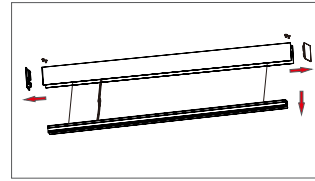

FIGURE 6-2
- II. For Middle-of-Run, remove both end caps, remove LED module. (Figure 6-2)